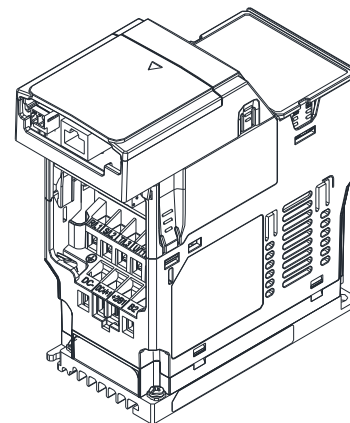

Figure 8-25
9. Assembly is completed, as shown in Figure 8-25.